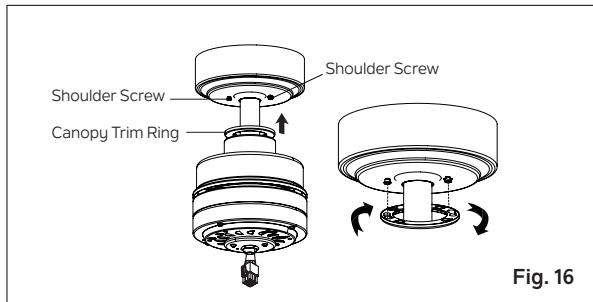

Fig. 16
Step 3. Raise the canopy trim ring to the canopy. Place the key hole slots in the canopy trim ring over the heads of the shoulder screws. Rotate the canopy trim ring (clockwise) until it locks in place against the shoulder screws (at the narrow ends of the key hole slots). **(Fig. 16)**
NOTE: Adjust the shoulder screws as necessary until the canopy and canopy trim ring are snug. **(Fig. 16)**